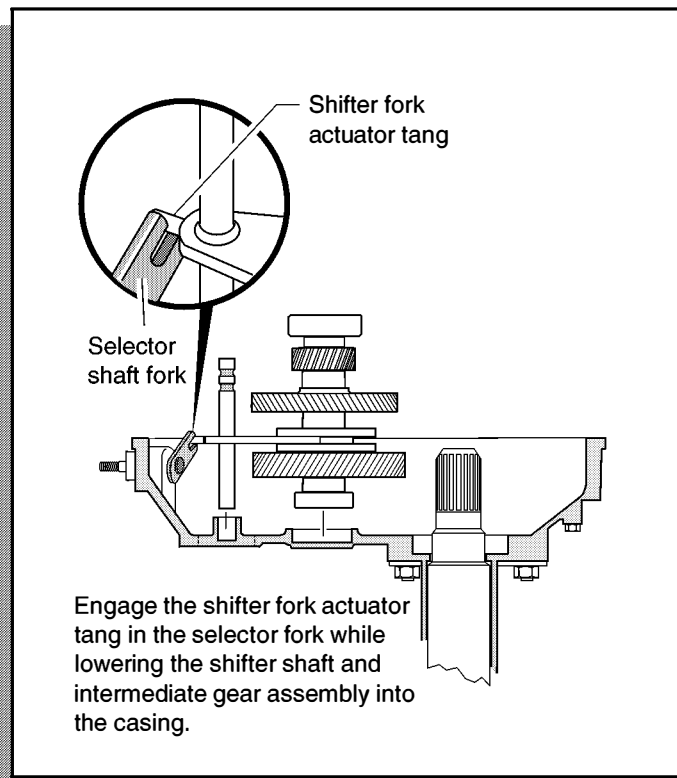

Fig. C-15 Engaging Shifter Fork Actuator
- A. Orient the selector shaft fork upwards and engage the shifter fork actuator tang in the selector fork while lowering the shifter shaft and intermediate gear assembly into the casing (Ref Fig. C-15 on page C-6).